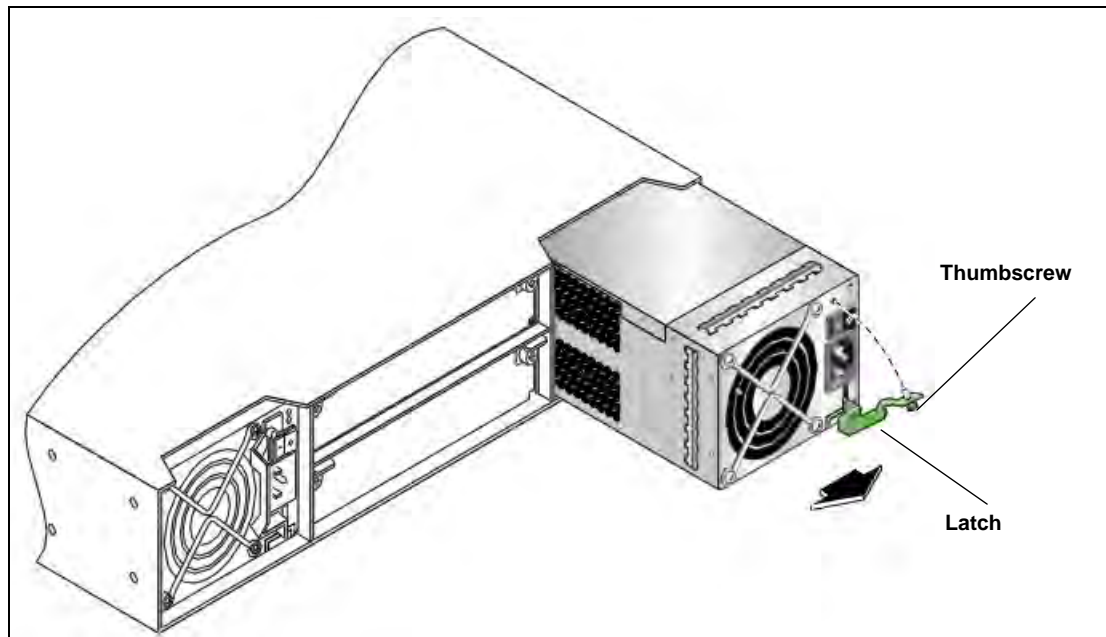

Figure C.37 - Remove PSU Module
4. Turn the thumbscrew at the top of the latch counterclockwise to loosen and disengage it from the module; however, do not remove the thumbscrew from the latch (**Figure C.37**).